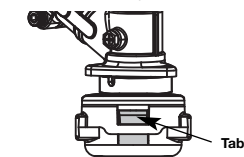

Fig. 20
1. Firmly press in on the tabs that are on each side of the cutting head. (Fig. 20)